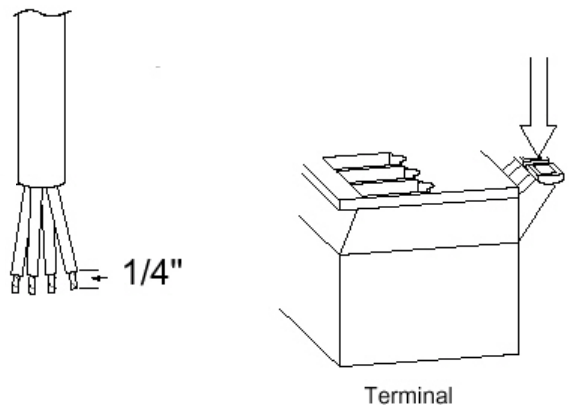
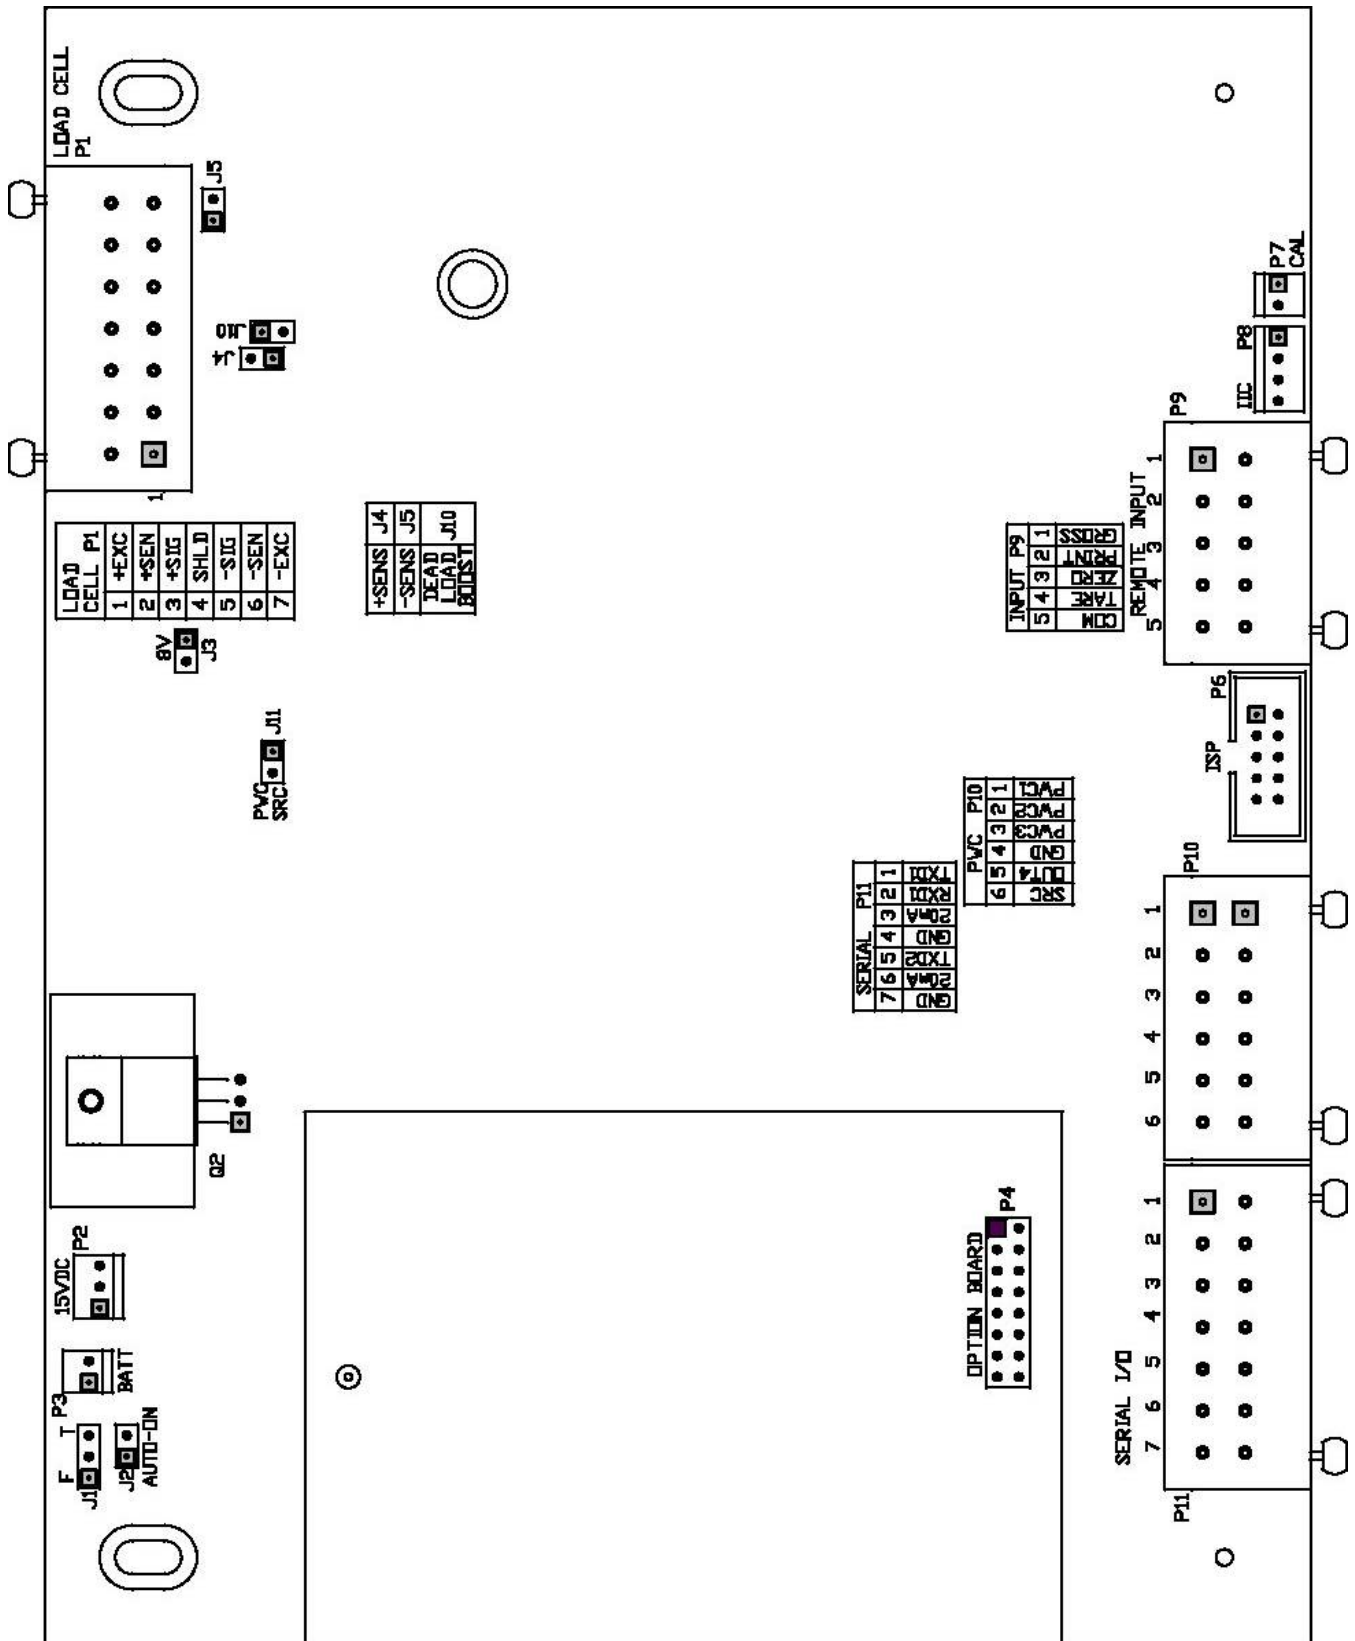

Figure No. 4
Figure No. 8
7. Remove 1/4" of insulation from the end of each of the 4 wires (without sense leads) or 6 wires with sense leads (refer to figure No. 4).
8. Connect each of the wires to terminal block P1 referring to labels on circuit board for terminal connections. Refer to Figure No. 8 for terminal block location.
**NOTE!** If the sense leads are NOT used, you must install plug-in jumpers at J4 and J5 adjacent to the terminal block. These jumpers attach the sense leads to the excitation leads. If sense leads ARE used (as in motor truck scales), these plug-in jumpers should be positioned on one plug-in pin only or removed and stored for later use (see Figure No. 8).
4. Remove 3" of the outer insulation jacket then remove 1/4" of insulation from each of the 4 wires and shield (without sense leads) or 6 wires and shield (with sense leads). Refer to Figure No. 4.
5. Connect each of the wires to terminal block P1 referring to labels on circuit board for terminal connections. Refer to Figure No. 8 for terminal block location.
3. Remove 2" of the outer insulation jacket then remove 1/4" of insulation from each of the wires (refer to Figure No. 4).
4. Connect each of the wires to the Serial Data terminal block (P11) referring to Figure No. 8 for terminal block locations.
Included with the I/O are 4 programmable inputs that may be used to remotely (up to 100 feet) initiate various functions within the indicator. These inputs are accessed via a terminal block (P9) on the back of the PC board (see Figure No. 8). The 4 inputs are defined as follows:
The Active Remote Out jumper J11, when connected, allows the 210/215 indicator to supply (source) 12 VDC to a solid-state relay or other load of 200 ohms or greater. To operate from the 12 VDC source, the positive connection from the relays must be connected to the PWC connector pins and the negative wire from the relays to the GND pin. See Figure No. 8 for jumper and REMOTE OUTPUT connector location.
To connect the control cable to the preset weight comparator/checkweigher logic level output connector P10, first loosen the gland connector located on the right side on the back of the 210/215. Refer to Figure No. 8 for the exact location of the connector. Slip the cable through the connector and into the enclosure. Remove 2 inches of the cable insulating jacket and then 1/4 inch of insulation from each of the internal wires (refer to Figure No. 4). Make the proper terminations on terminal block P10. To terminate a wire, first press down on the terminal block release bar, insert the wire into the terminal and remove pressure from the release bar locking the wire in place.